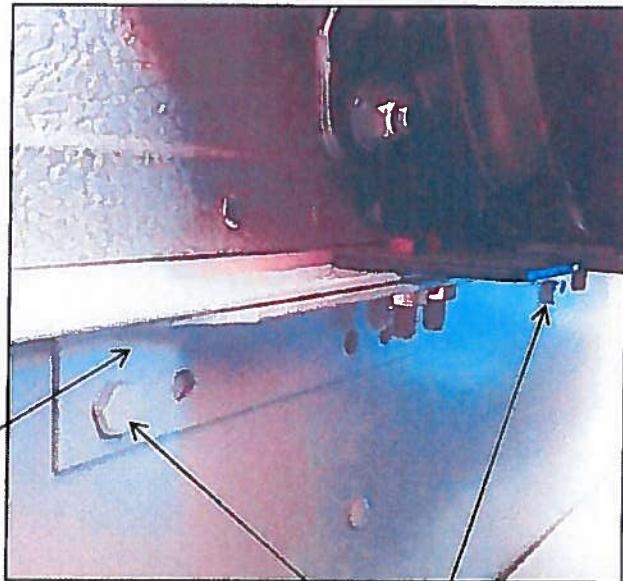

Figure 1
Locate the seat gusset reinforcement bracket for each Quasi-Static, 3-point seat. It will be fastened to the wall, immediately below the seat ledge, with at least two (2) grade 8 bolts. Visually check the bolts for six (6) dashed markings on the head of each bolt as referenced in Figure 1. If these markings are not present or there are other markings, perform the remaining instructions.